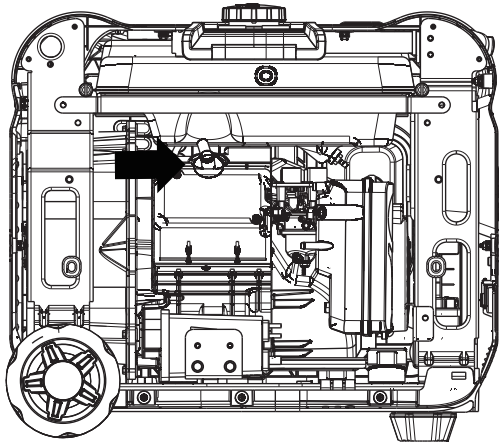

Figure 15: Slide off spark plug cover
- 3. Slide the spark plug access cover off the housing (see Figure 15).